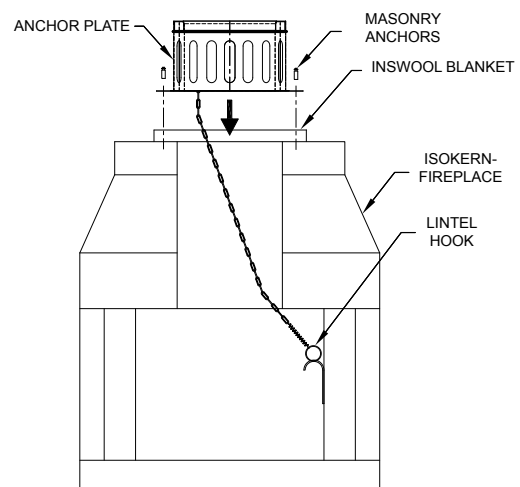

FIG. 1
It is important that the surface of the Isokern chimney has a level surface on which to attach the Anchor Plate. If the top of the Isokern does not have a level surface, then it will need to be modified accordingly. Center the Inswool blanket over Isokern Top Plate hole and trace outline of hole with a pen or marker. Cut a hole in the blanket to match the hole in the Isokern top plate. Center the Inswool blanket over the Isokern Top Plate flue opening, then center anchor plate over the Inswool blanket. If a Damper is used, make sure nothing interferes with the damper plate movement. Secure the Anchor Plate with four (4) masonry anchors. See **FIG.1**. If the Anchor Plate with Damper is installed the damper should swing freely. When the chain is pulled down, the damper should close (horizontal position). When the chain is released (no weight on the chain), the damper should swing open (vertical position). To install the lintel hook, place the damper plate in the closed (horizontal) position. Determine and mark the position of the lintel hook. The lintel hook should be mounted in a position so as to provide a small amount of tension in the spring attached to the chain. See **FIG. 1**. The tension is needed to prevent the damper plate from rattling when closed. Mount the lintel hook to masonry with the screws provided. Do not obstruct oval openings in the anchor plate.